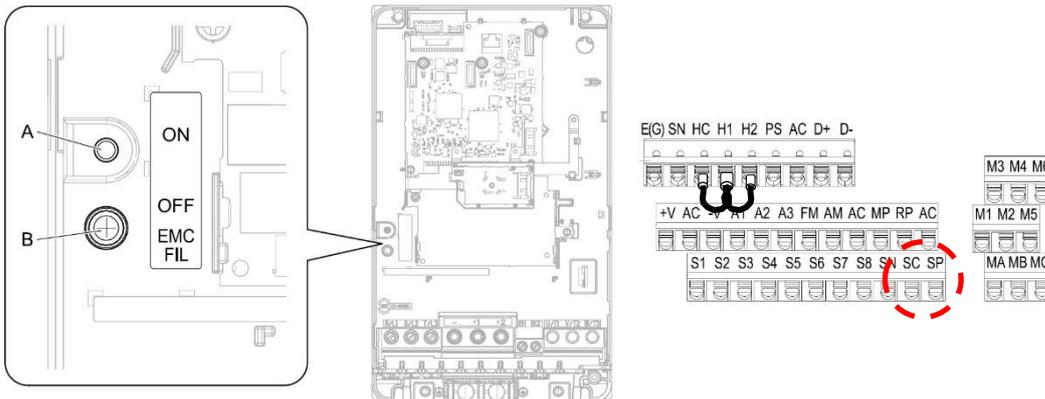

Figure 17: Enabling inbuilt EMC filter and terminal bridges.
Move the switch screw from position **B** to position **A** (in the hole) to turn ON the inbuilt EMC filter. If the EMC filter switch screw is lost, refer to GA700 Technical Manual pp.251 to find out the type of correct replacement screw (See Figure 17).
3.4.2 CHECKING TERMINAL BRIDGES: MAKE SURE THAT THE CONNECTION BRIDGE BETWEEN TERMINAL SP & SC IS REMOVED AND THE CONNECTION BRIDGES AMONGST HC-H1-H2 REMAINS INTACT (SEE FIGURE 17).